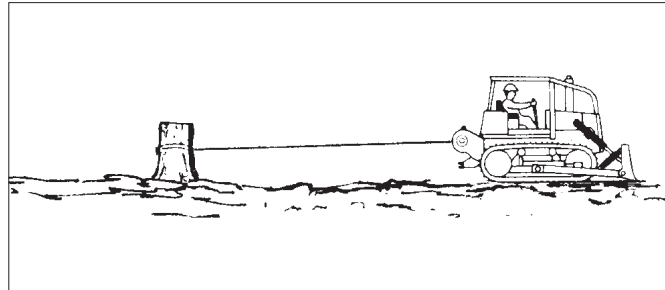

Figure 17 Moving a Disabled Vehicle (Step A)
A. A dozer or skidder often travels in areas where traction conditions are bad. A vehicle equipped with a winch can be used to remove itself from mud or other areas where it cannot move using only the drive wheels or tracks. See Figure 17. Use the following procedure: